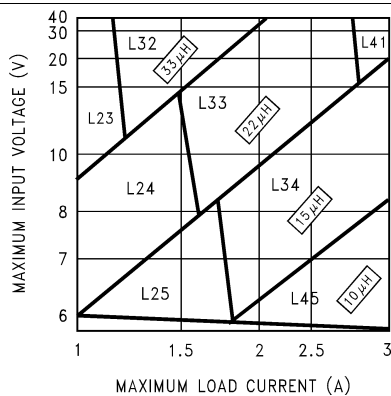

Figure 17. LM2676-3.3
**Step 3:** Determine the inductor required by using one of the four nomographs, Figure 17 through Figure 20. Table 3 provides a specific manufacturer and part number for the inductor.
**Step 5:** Determine an input capacitor from Table 7 or Table 8 for fixed output voltage applications. Use Table 1 or Table 2 to find the specific capacitor type. For adjustable output circuits select a capacitor from Table 1 or Table 2 with a sufficient working voltage (WV) rating greater than  $V_{IN\ max}$ , and an RMS current rating greater than one-half the maximum load current (2 or more capacitors in parallel may be required).
**Step 3:** Use the nomograph for the 3.3-V device, Figure 17. The intersection of the 16 V horizontal line ( $V_{IN}$  max) and the 2.5 A vertical line ( $I_{LOAD}$  max) indicates that L33, a 22- $\mu\text{H}$  inductor, is required.